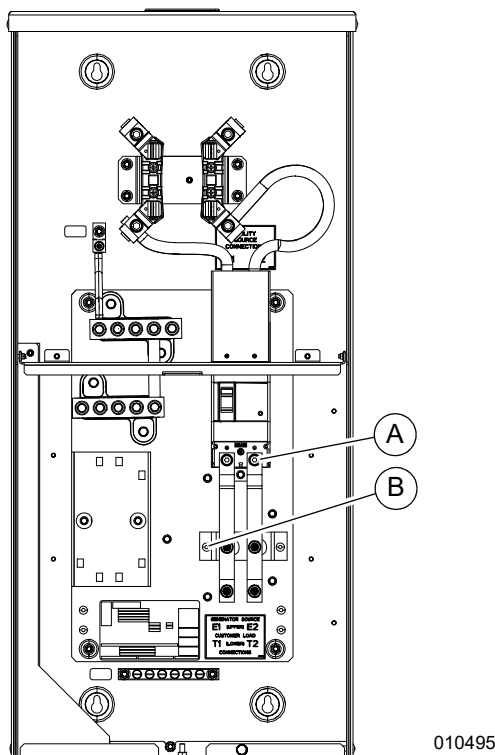

Figure 3-8. Remove Bus Bar Assembly
1. See Figure 3-8. Remove screws (A) from bus bar assembly and set aside.
2. Remove screws (B) from bus bar assembly and remove assembly from sub panel.